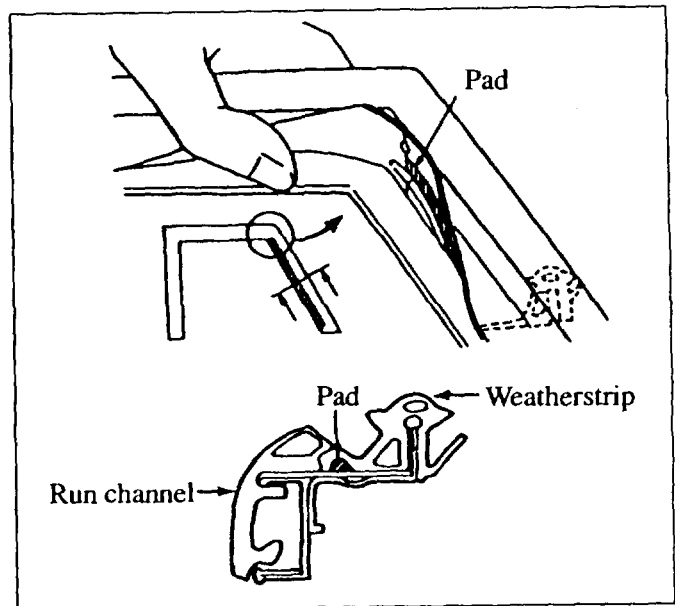

Figure 16: *Top of rear door*
3. Fold up the glass weatherstrip and install a pad as indicated by the circle in **Figure 16**.